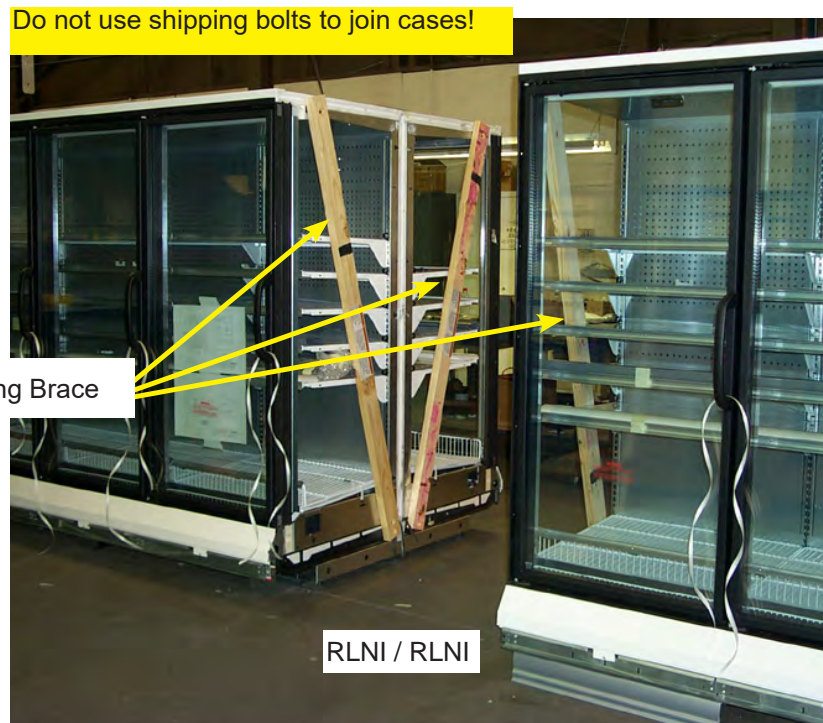

Figure 3. Remove Shipping Braces
3. Once cases are close to final placement, remove the shipping braces from the ends to be joined, see Figure 3. Discard bolts and flat washers used to hold shipping braces. Bolts are too long to be used for joining.